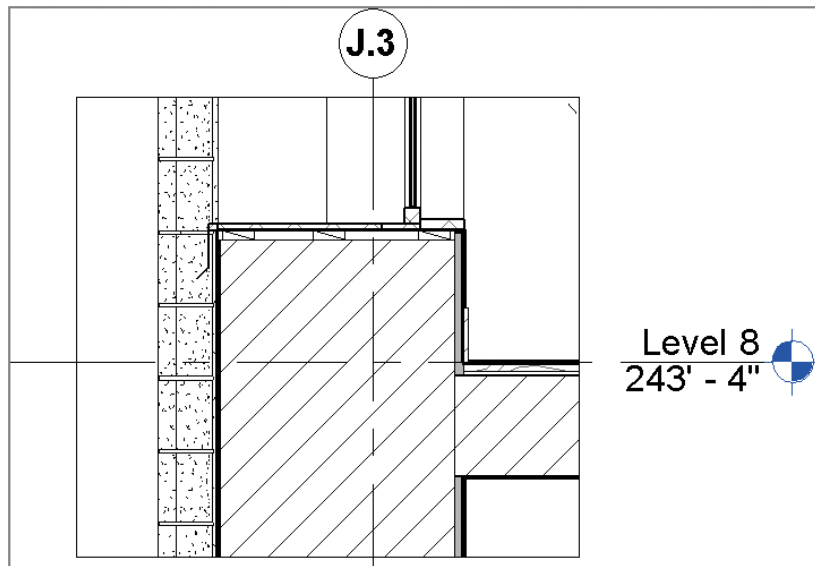

FIGURE 11.15 The finished window-sill detail
6. You can further finesse the appearance by placing one of the joints directly below the window sill. This appears placed on top of the flashing you drew earlier, so you'll want to move the flashing to the front. Select the flashing detail line, and choose Bring To Front from the Arrange panel. The completed detail looks like Figure 11.15.